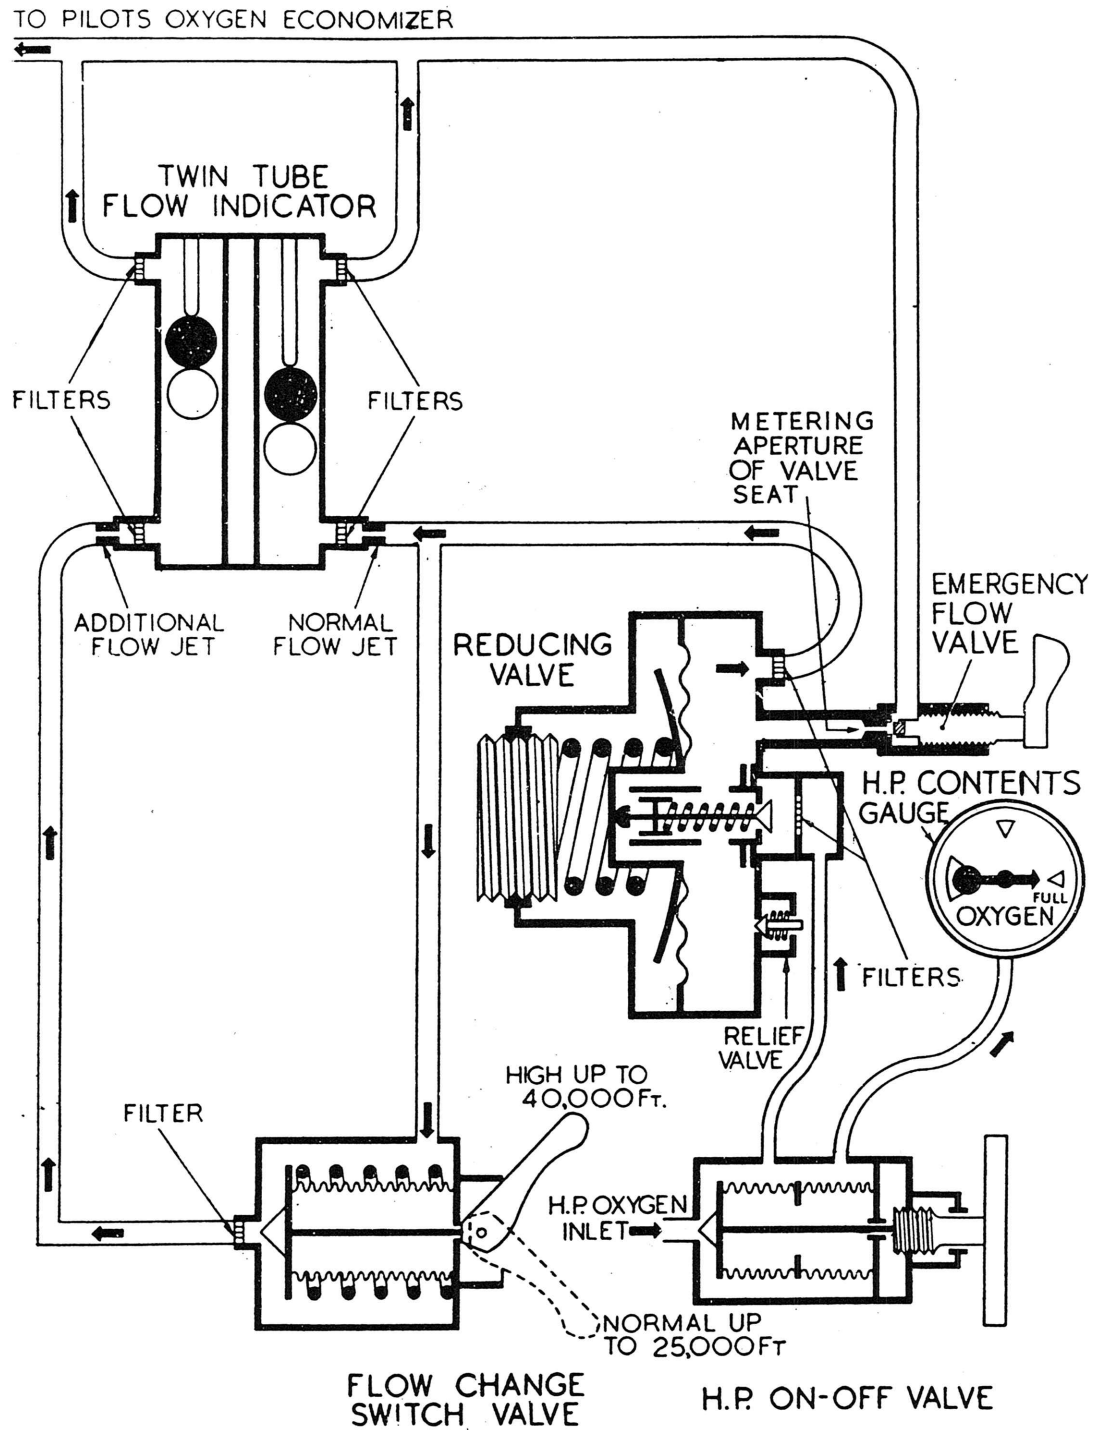

Fig. 8. Schematic diagram of regulator, Mk. IIC
twin tube flow indicator and the high-pressure contents gauge, as shown on fig. 8. The valve is operated by a control lever, coloured red, which is mounted on the front plate of the regulator. See para. 17.
**16.** The functioning of the Mk. 11C regulator is the same as that of the Mk. 11A and 11B for normal and high flow, but the introduction of the emergency flow valve allows a further increased flow of oxygen to the economizer. The inlet of the emergency valve is connected to the reduced-pressure chamber of the regulator, as shown in fig. 8, and the outlet from the valve is connected by drilled passage-ways into the down-stream side of the flow indicator. This leads directly into the outlet connection of the regulator. The bore of the valve seat is calibrated in order to act as a metering jet to control the maximum flow passed by the valve.